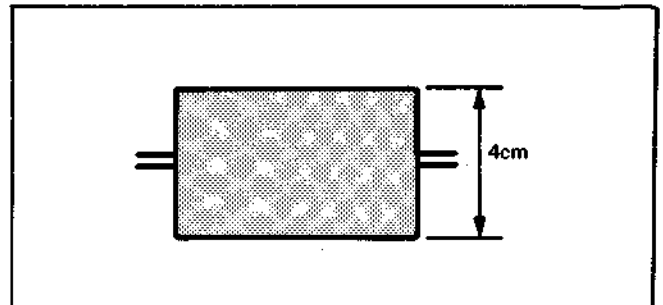

Fig. 3-21 No. 7 Guide Waveform
- 4) Turn No. 7 guide clockwise and make the RF output waveform exit 4cm. (Fig. 3-21)